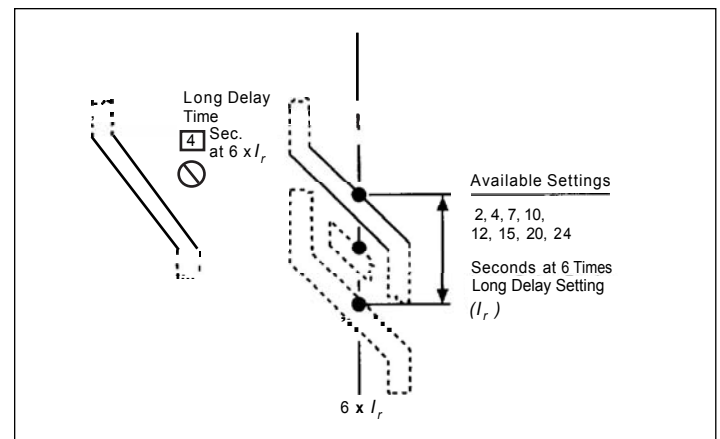

Figure 14. Long Delay Time Settings.
There are eight (8) available Long Delay Time Settings, as illustrated in Figure 14, ranging from 2 to 24 seconds. These settings are the total clearing times in seconds, when the current value equals six (6) times I_r . The (LS) Time-Current Curve applicable for your circuit breaker gives complete details (see Section 6).